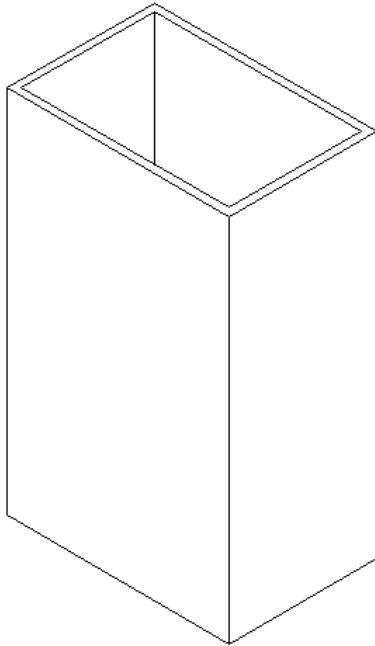

Figure 24-45: The shelled box.
8. Save your drawing. It should look like Figure 24-45.